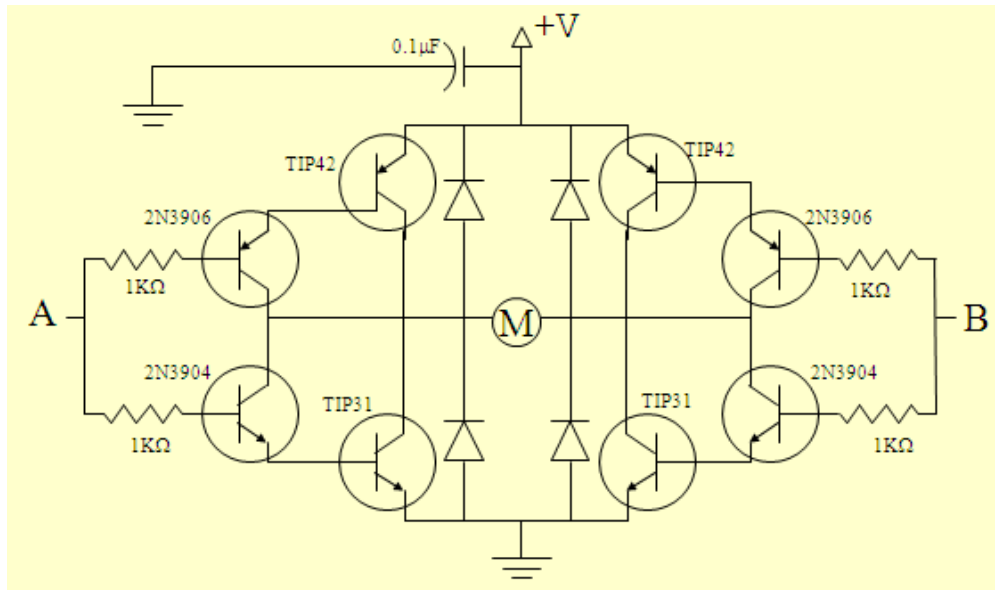

Figure 6.2: DC-Motor Control H-Bridge
2. A typical microcontroller can source or sink a few milliamps of current per I/O pin. As such, if we were to generate a 5V, 2mA PWM signal from the MSP432, it would not provide sufficient power to turn our DC motor. To solve this problem, transistors, H-bridges, and motor controllers are used. Each of these amplify the output signal from the I/O port to the appropriate voltage and current necessary to drive the motor. For example, we could use NPN and PNP transistors to construct our own H-bridge. In the circuit in Figure 6.2, by having I/O signal A high and I/O signal B low, the motor turns in one direction, and swapping their polarities makes the motor turn in the other direction. Answer the following questions based on Figure 6.2.
5. The circuit shown in Figure 6.2 is offered as a prepackaged integrated circuit such as the L293NE/SN754410 which contains four half bridges. Two half bridges make a full H-bridge, so one L293NE/SN754410 IC can drive two DC motors. For simplicity, we'll only drive one motor, making connections as per the L293NE/SN754410 datasheet and class lecture slides. Connect the microcontroller generated PWM signals to input pins on the chip (use left side). Connect the enable pin and Vcc1 to +5V from the MSP432. Connect Vcc2 to +10V from power supply. Note: to drive the motor clockwise, one of the two signals is set to ground or 0% duty cycle; to change direction, swap which signal (input pin) is PWM and which is ground.